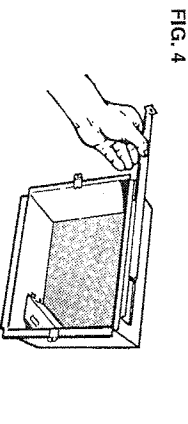

FIG. 4
1. Choose which side of housing will be mounted directly to a wall stud. Then, insert a mounting bracket, from the opposite side, into the channel at the top of housing. (FIG. 4)
1. Choose which side of housing will be mounted directly to a wall stud. From this side, push a mounting bracket as far as possible into the channel at the top of housing. (FIG. 4)
1. Escoga qué lado de la caja se montará directamente a una viga de pared. Desde el lado opuesto, meta un soporte de montaje en el canal en la parte de arriba de la caja. (FIG. 4)